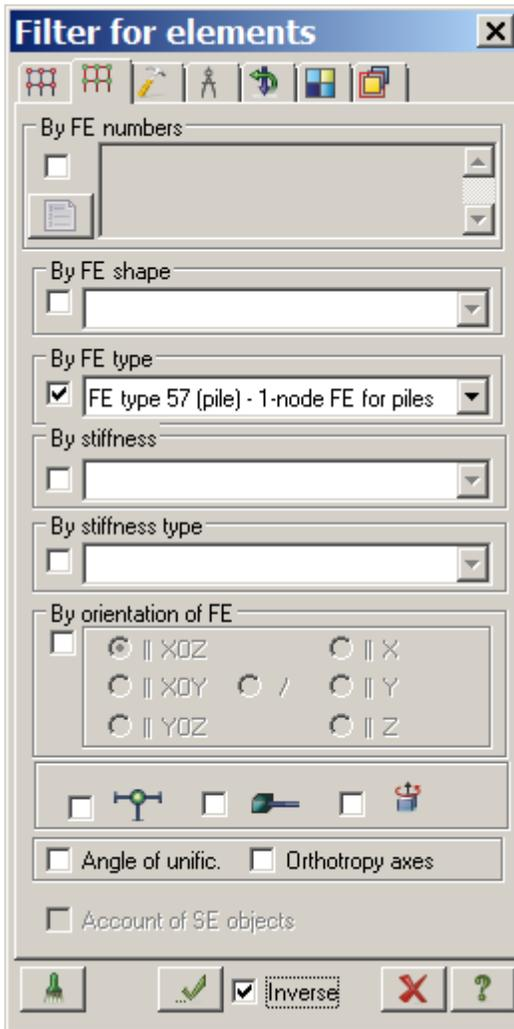

Figure 22.11 **Filter for elements** dialog box
- ⇒ On the **Filter for elements** tab (see Fig.22.11), select **By FE type** check box and select **FE type 57(pile)** option in the list.